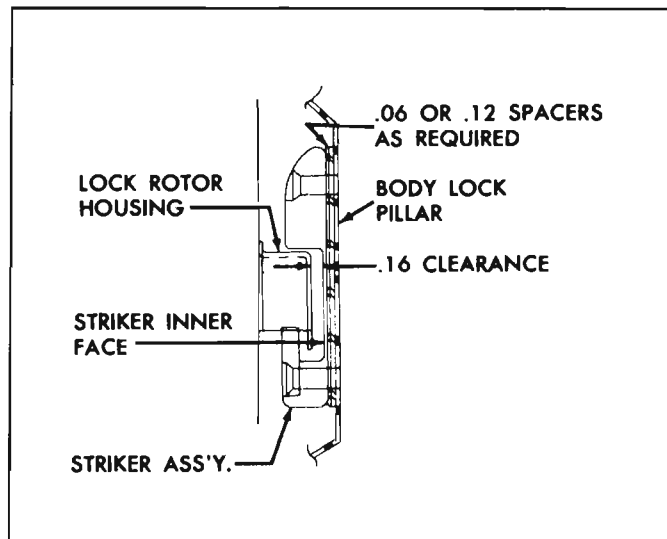

Fig. 10-39a—Striker Plate Spacer Installation
1. Position striker assembly on pillar so outer face of lock rotor swings into the striker assembly with .160 clearance to the striker inner face. This adjustment can be made by using the .060 and .120 spacers as required (fig. 10-39a).